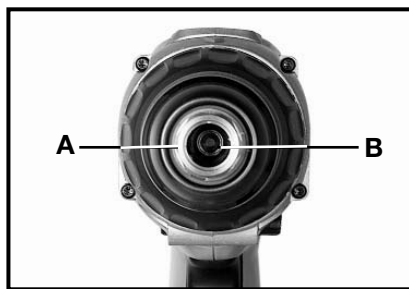
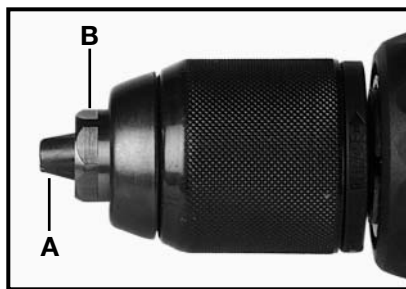

Fig. 13
Fig. 14
1. Open chuck jaws (A) Figs. 13 and 14 as wide as possible to gain access to the chuck retaining screw (B) Fig. 13.
2. Remove chuck retaining screw (B) by turning it clockwise (left-hand thread) with a hex wrench.
3. Use a 3/4" (19mm) wrench on nose of chuck (B) Fig. 14. Turn counterclockwise to remove.